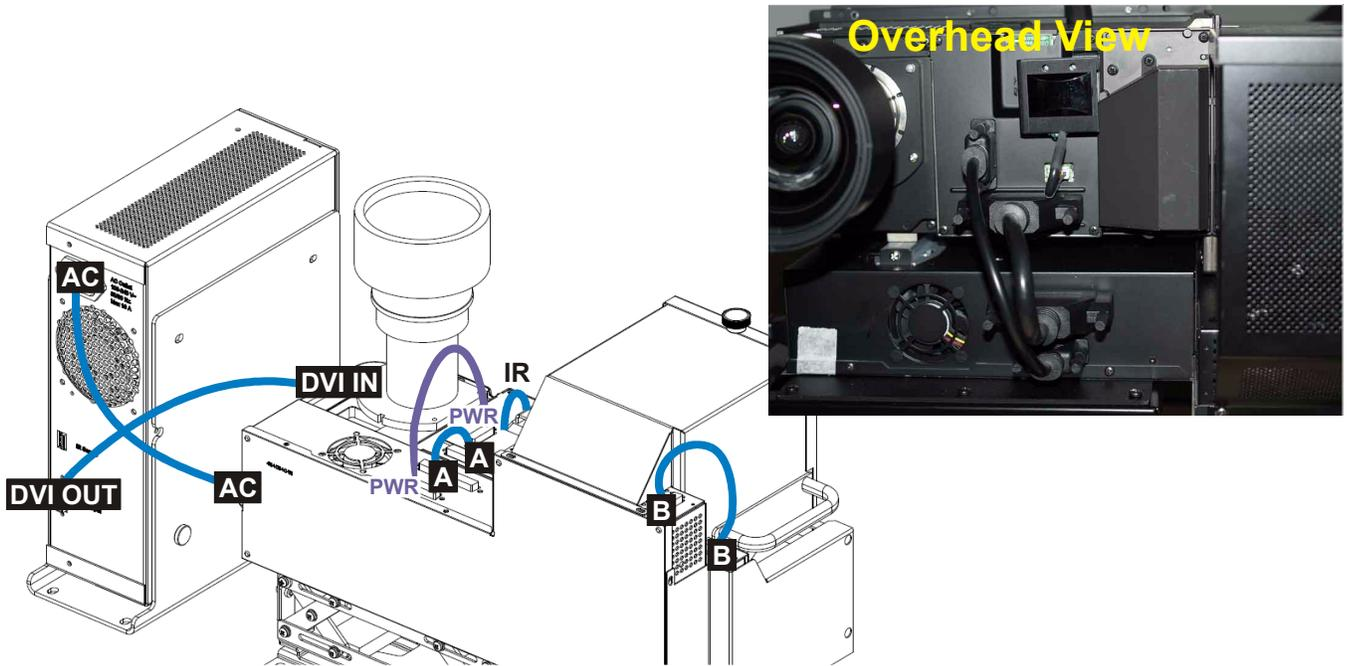

FIGURE 2-1 INTERNAL CABLE CONNECTIONS
Verifying all cable connections are secure. Connect any loose cables. See *Figure 2-1 Internal Cable Connections*.
8. Reconnect all cables disconnected previously in step 2. Refer to Figure 2-1 Internal Cable Connections.